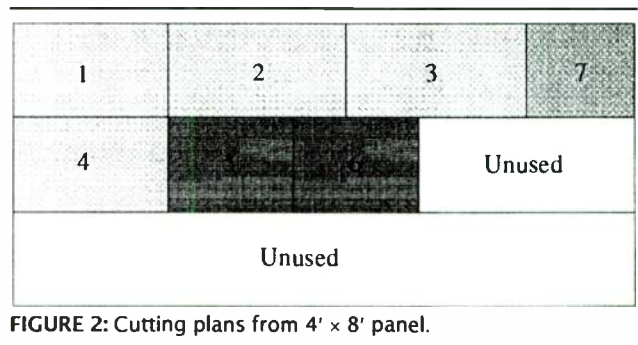

FIGURE 2: Cutting plans from 4' x 8' panel.
2. Cut three 25 3/16" pieces from one of the 8' lengths (Fig. 2, #1-3), another 25 3/16" length (#4) from the other 8' piece, and two 16½" sections (#5 and 6).
11. You would then cut three ABS pieces at the prescribed length (Fig. 2) and secure (using wood glue) in the previously cut holes. I tapped the ABS tubes lightly into each slot using a mallet. When the tubes were seated, I rotated each one a half turn to ensure a uniform glue application and applied a solid bead of glue around the base of each tube where it meets the wood to ensure it is secured in the slot. I let this set overnight.